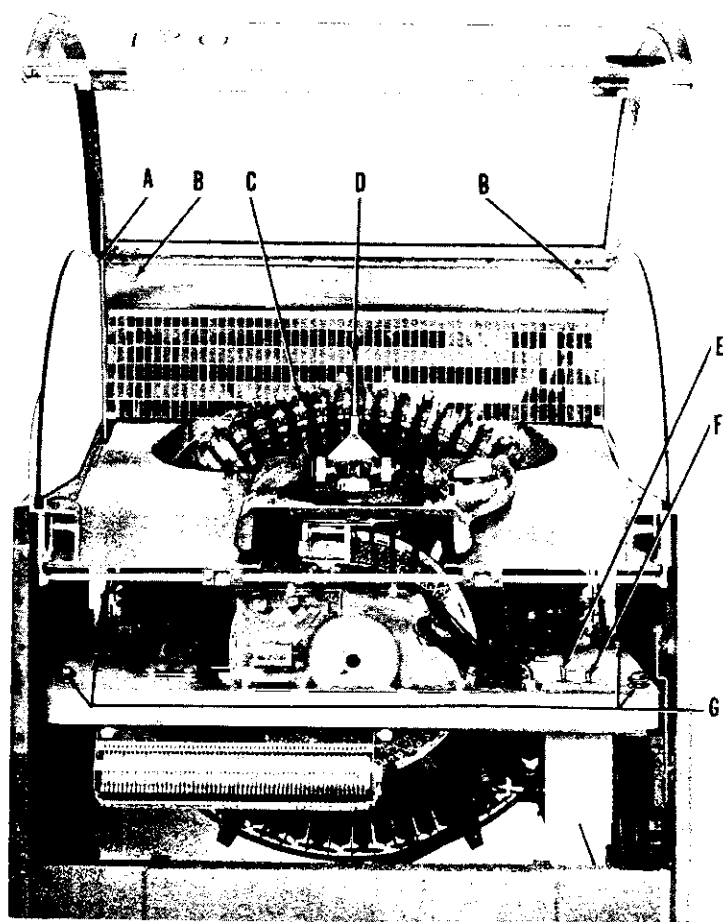

FIG. 4—Inside View of Cabinet
3. Cabinet lighting is accomplished with 20 watt fluorescent tube located in dome. Tube is accessible for replacement after two screws (B-Fig. 4) holding plastic panel are removed.
The top dome is held in an open position by means of locking latch (A-Fig. 4). The latch bar is held firmly in place by a spring lock which applies pressure against the locking latch.
Four anchor bolts (G-Fig. 4) must be unscrewed as far as possible before operating phonograph. These bolts must be tightened securely whenever the phonograph is transported.
Mechanism power switch (F-Fig. 4) located on front side of the chassis in the control box may be operated at any time to stop mechanism at any point of operation. For service purposes, make certain that switch is left in "ON" position after servicing mechanism.
Depressing the record load switch (E-Fig. 4) located to the left of the mechanism power switch in the control box, causes the record magazine (C-Fig. 4) to rotate. Releasing the record load switch will stop the record magazine in any position to install or remove records.
1. Depress "RECORD LOAD" switch (F-Fig. 4) and hold down until record magazine rotates.
2. If record magazine does not rotate due to phonograph being in "Music play" position; place tone-arm in record cut-off groove and allow grip arm (D-Fig. 4) to return record to record magazine. The record magazine will then rotate.
3. After record magazine begins to rotate, move "Mechanism Power" switch (F-Fig. 4) to "OFF" position.